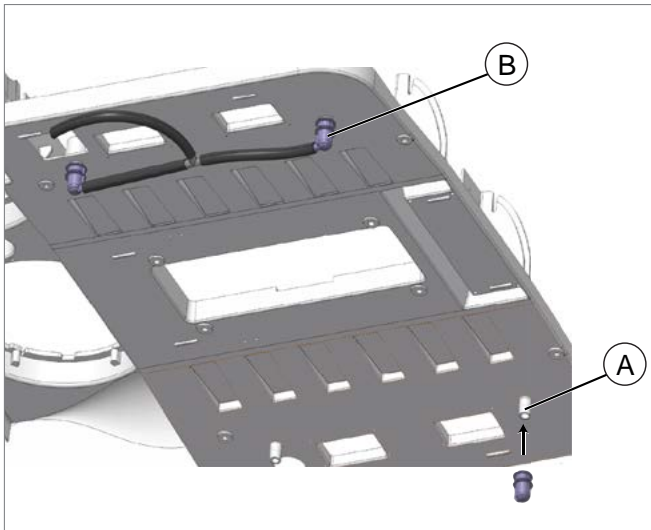

Fig. 19: Drain water hose locations
- ▶ Put the 4 drain water plugs in place. This must be done from the inner side of the vehicle, Fig. 19 Position "A"